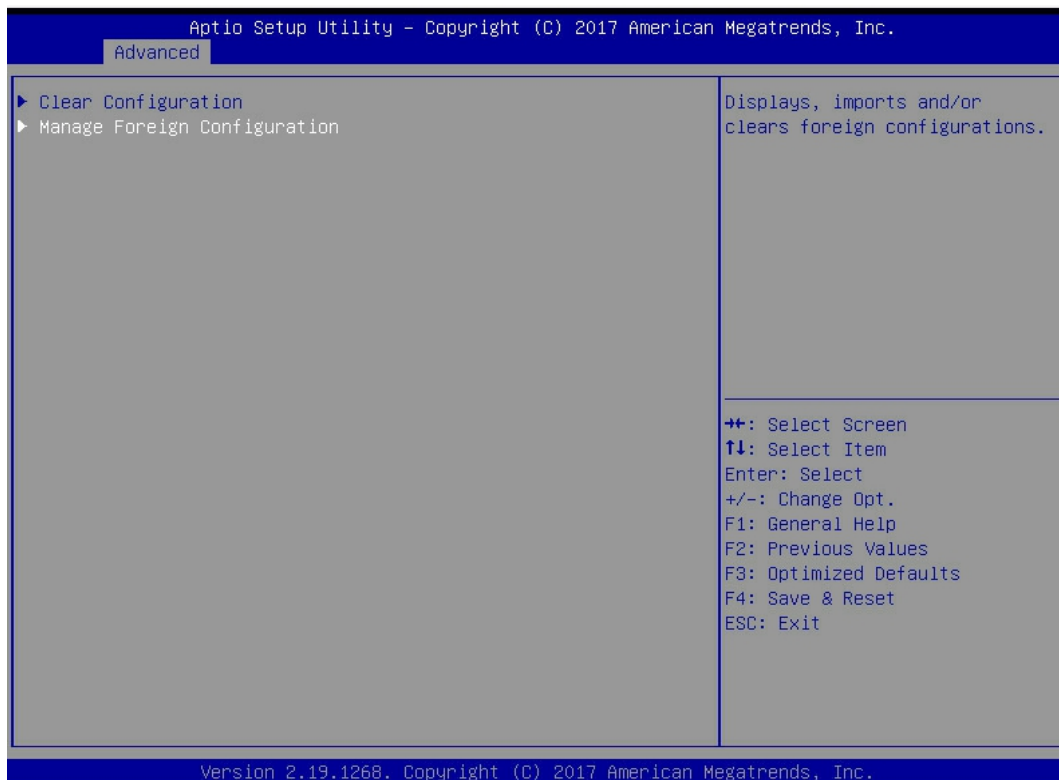

Figure 6-102
c) Enter the interface shown in figure 6-102, select manage foreign configuration, and press enter.
✧ Figure 6-102 select manage foreign configuration